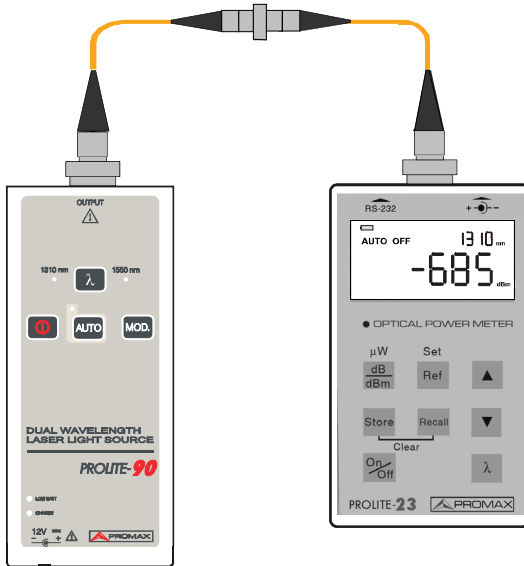

Figure 13.- Connector insertion loss testing
1. If users want to make full use of the measurement function of the instruments (laser source and power meter), then test of the output power of laser source connected to optical jumper cable must be performed before link testing. And connect laser source and power meter with tested optical jumper cable, as in figure 13. The value of the power is shown in **PROLITE-23** screen (Write down this power value as P1).